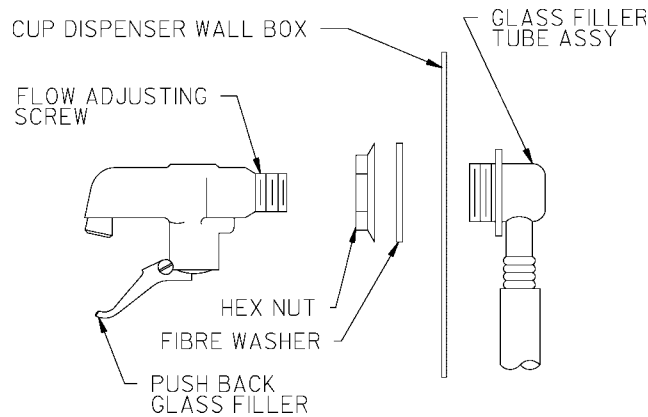

FIG. 11
7. Install glass filler supply tube assembly. (Figure 11). Put glass filler fitting through hole provided in back, put fibre washer on from the front and screw on the hexagonal mounting nut. Note that the tubing itself is flex-tubing which will enable you to hand-form as required for installation.
12. Turn on supply water and operate push button valve and glass filler. Check entire system for leaks. Water flow from the glass filler can be adjusted by turning the flow adjusting screw (see Figure 11). In order to adjust, it may be necessary to remove, and then reinstall the glass filler, per step 8 above.